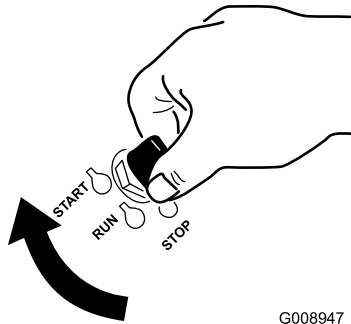

Figure 17
1. Turn the ignition key to the Start position (Figure 17). When the engine starts, release the key.